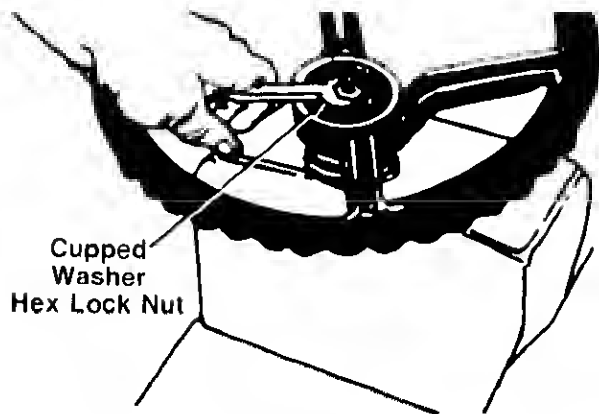

FIGURE 13.
5. Place the washer with the cupped side down over the steering shaft. Secure with 5/16" hex lock nut. See figure 13.